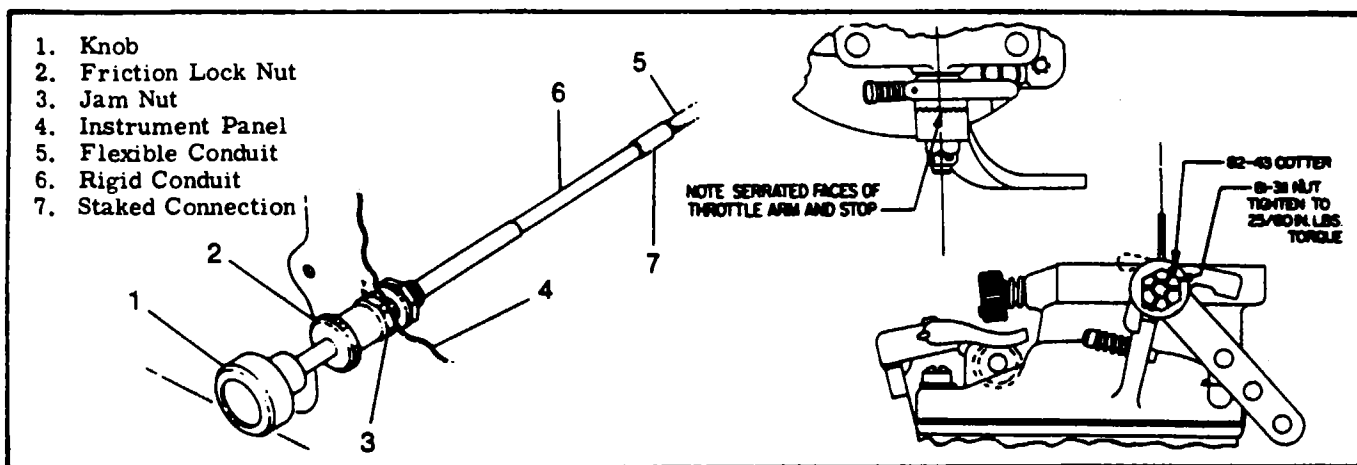

Figure 11-7. Throttle Control and Throttle Arm to Idle Stop Attachment
Before rigging throttle control shown in figure 11-7, check that staked connection (7) between rigid conduit (6) and flexible conduit (5) is secure. If any indication of looseness, (total linear movement exceeds .050 in.) or breakage is apparent, replace the throttle control before continuing with the rigging procedure.